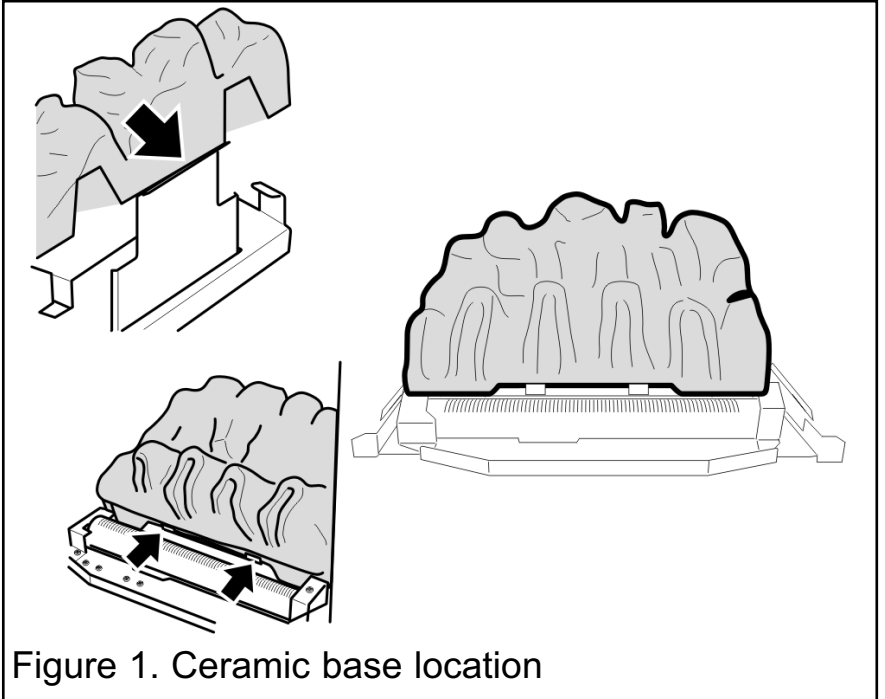

Figure 1. Ceramic base location
**1.** Place the ceramic base coal in the burner compartment. The bottom rear face of the coal should rest on the angled ledge at the back of the burner tray. The bottom front recess of the coal base should locate against the tags at the front of the ceramic support (See figure 1).